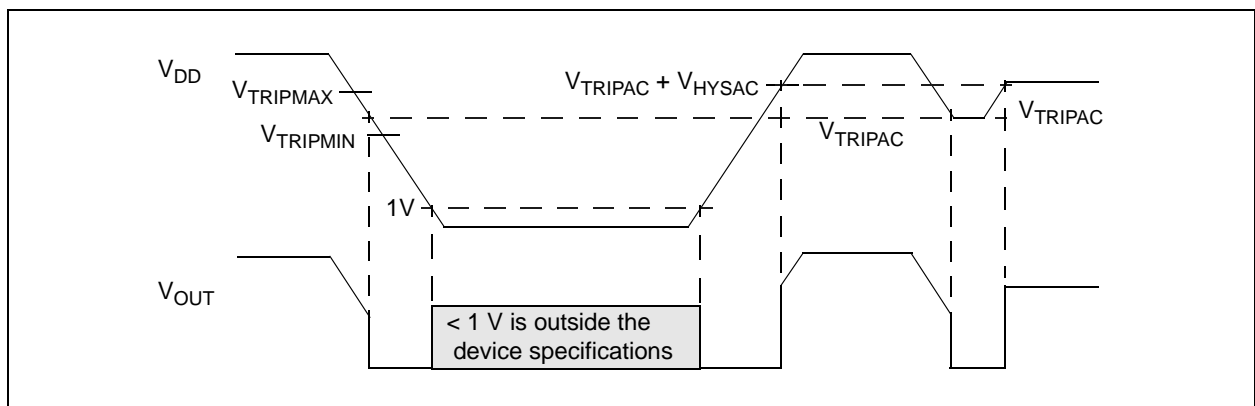

**FIGURE 4-1:** Typical Application Circuit.
**Note:** Unless otherwise indicated, all limits are specified for  $V_{DD} = 1V$  to  $5.5V$ ,  $R_{PU} = 100\text{ k}\Omega$  (only **MCP111**; see **Figure 4-1**),  $T_A = -40^\circ\text{C}$  to  $+125^\circ\text{C}$ .
**Note:** Unless otherwise indicated, all limits are specified for  $V_{DD} = 1V$  to  $5.5V$ ,  $R_{PU} = 100\text{ k}\Omega$  (only MCP111; see Figure 4-1),  $T_A = -40^\circ\text{C}$  to  $+125^\circ\text{C}$ .
**Note:** Unless otherwise indicated, all limits are specified for  $V_{DD} = 1V$  to  $5.5V$ ,  $R_{PU} = 100\text{ k}\Omega$  (**only MCP111**; see **Figure 4-1**),  $T_A = -40^\circ\text{C}$  to  $+125^\circ\text{C}$ .
For many of today's microcontroller applications, care must be taken to prevent low-power conditions that can cause many different system problems. The most common causes are brown-out conditions, where the system supply drops below the operating level momentarily. The second most common cause is when a slowly decaying power supply causes the microcontroller to begin executing instructions without sufficient voltage to sustain SRAM, thus producing indeterminate results. Figure 4-1 shows a typical application circuit.
A 0.1  $\mu$ F bypass cap mounted as close as possible to the  $V_{DD}$  pin provides additional transient immunity (refer to Figure 4-1).